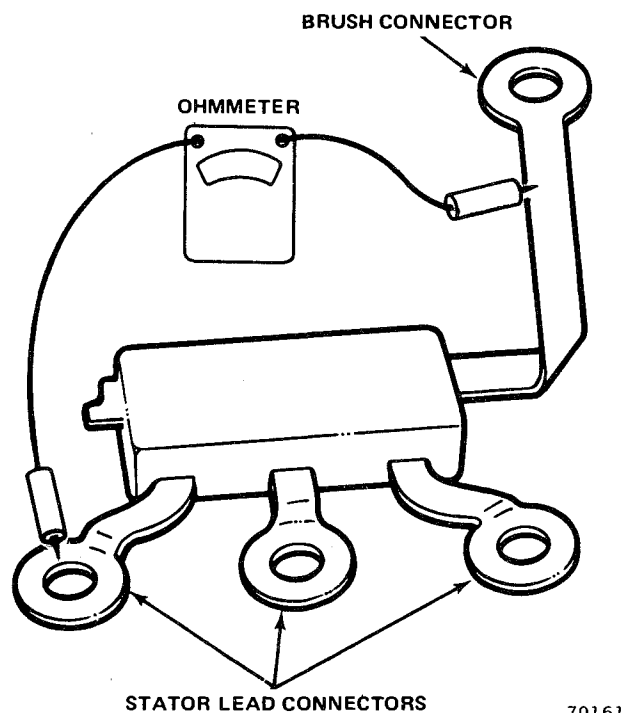

Fig. 1E-10 Testing Diode Trio
- (1) Connect ohmmeter to grounded heat sink and one of three terminal tabs (fig. 1E-11). Note reading.
- (2) Reverse lead connections to grounded heat sink and same terminal tab. Note reading.